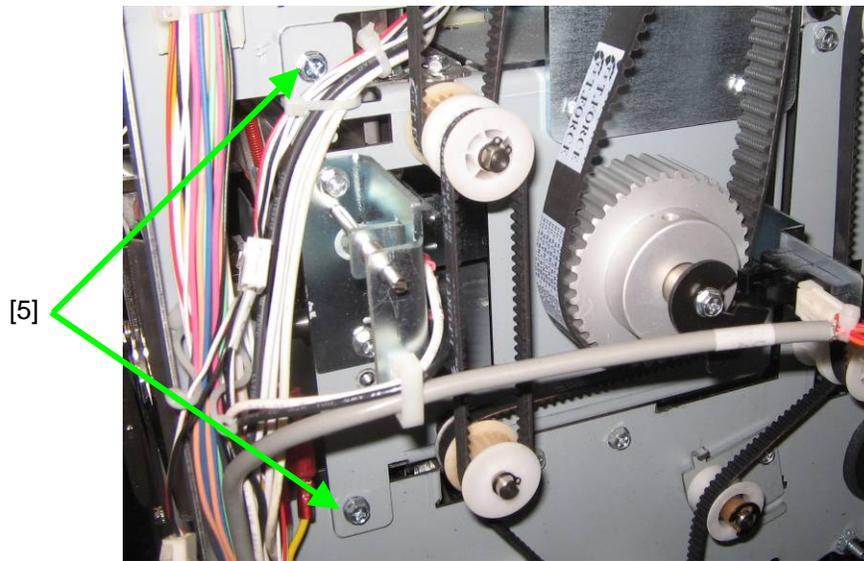

Figure 4.52 Punch Module Retaining Screws on Rear of Punch.
6. Remove the belts in the order shown in Figure 4.52.